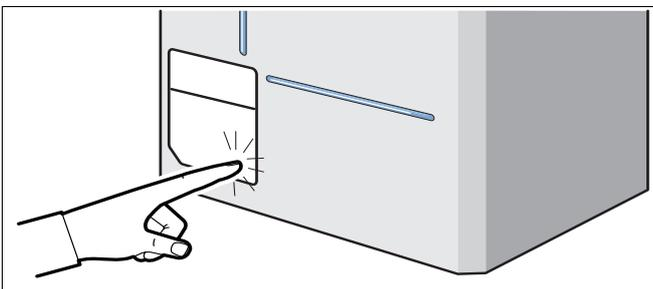

Fig. 1 Open the window of control unit
- Press the window to open the access panel of the control unit see fig 1.